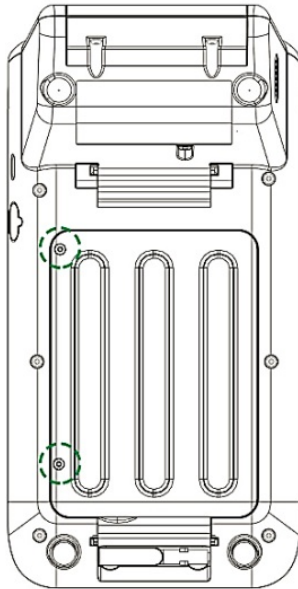

Figure 7
STEP 1: Remove the 2 screws and open the battery cover as Figure 7.
STEP 5: Place the battery cover to close the compartment as Figure 7.